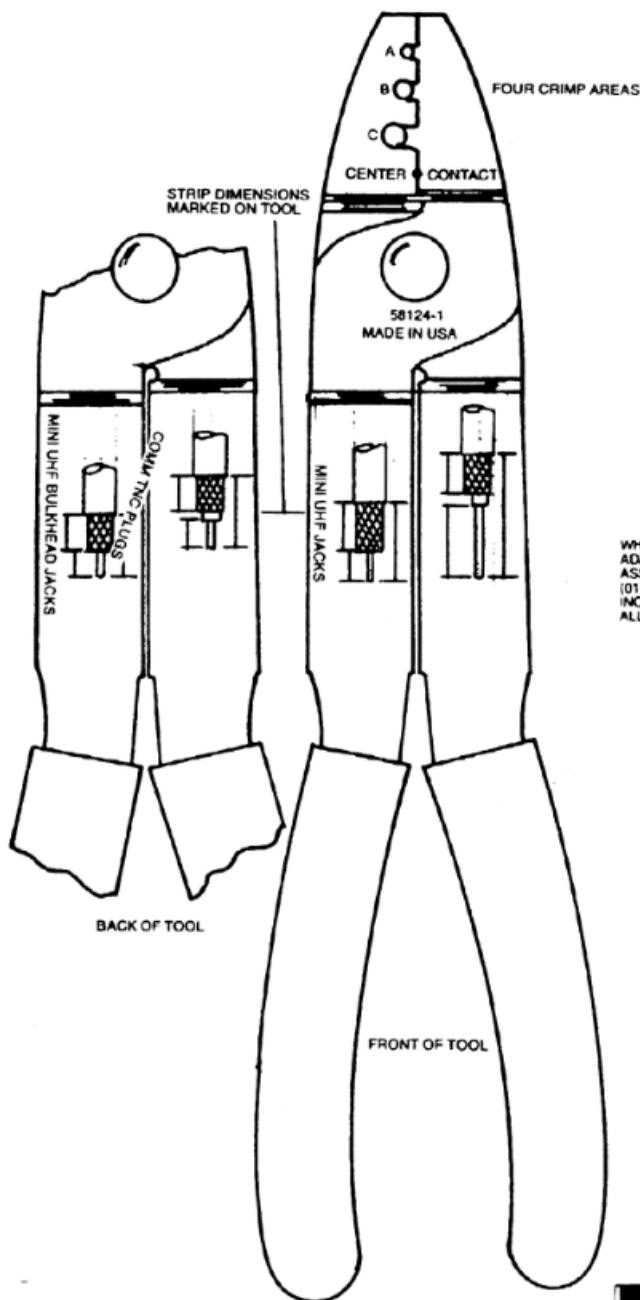
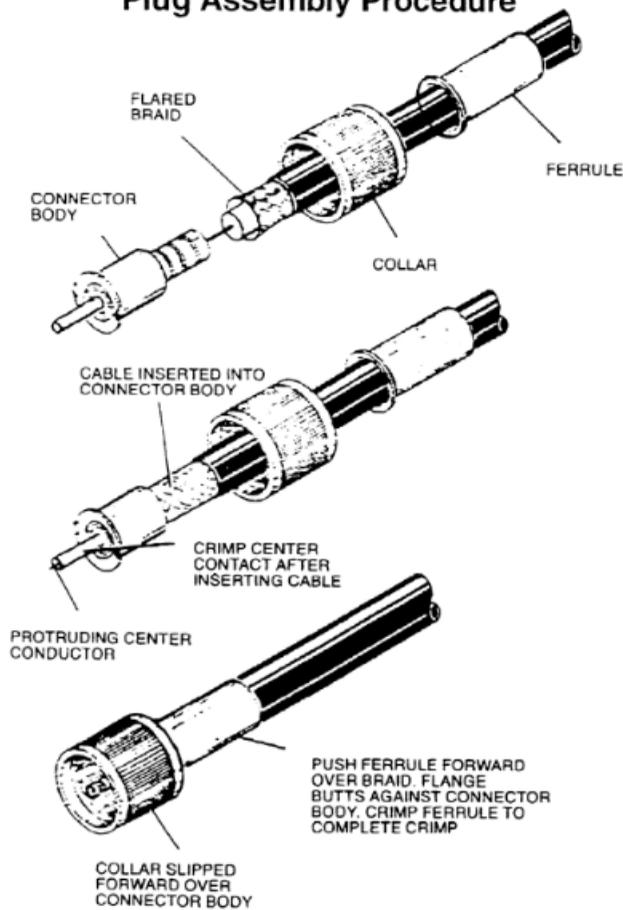

Figure 10.
Figure 12.
Use Motorola hand tool part #66-80388A26. Refer to Figure 10. A deluxe ratchet type tool is available; order part #66-80334B40.
1. Slip the ferrule and collar onto the cable. Refer to Figure 12.
3. Insert the stripped cable into the plug body until the conductor is exposed (front end) and the dielectric bottoms inside the body. Refer to Figure 12.
4. Crimp the center contact using the proper crimp section of the tool. Refer to Figure 10 marked "CENTER CONTACT".
5. Push the collar forward onto the plug assembly. Fit the cable braid over the support sleeve of the connector. Refer to Figure 12.
6. Push the ferrule over the braid until the flange butts against the connector body. Refer to Figure 12. Using the correct crimp area of the tool, crimp the ferrule close to the plug body. See Figure 10 crimp location "C". Crimp the ferrule a second time close to the cable end, using the "C" crimp area of tool.